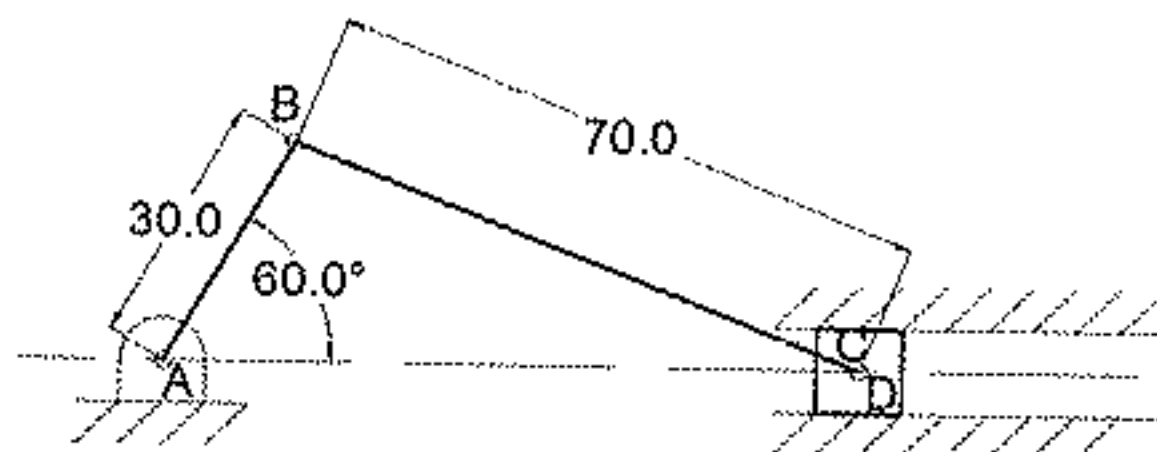

Figure 2
- Fig. 2 shows the diagram of a slider crank mechanism. If the crank is rotating 30 rad/s in the clockwise direction, find out the velocity of the slider B. Construct a velocity polygon to scale for the velocity analysis. Point C is the point on the connecting rod at the pin joint. Point D is on the slider.